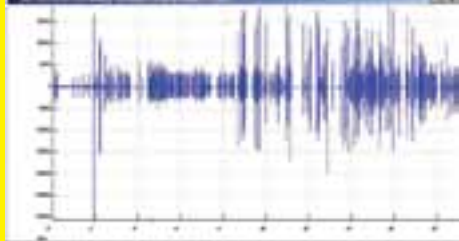

Figure 3a - Corona discharge prior to cleaning on a three-phase bushing
**Press the play button to hear the sound bite for Figure 3a**